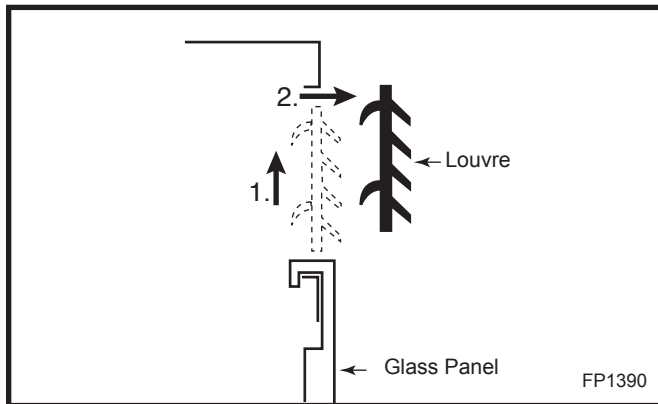

Fig. 35 Louvre removal.
- The top side and top end louvres are removed by simply lifting the louvre assembly and pulling the assembly away from the fireplace. (Fig. 35)